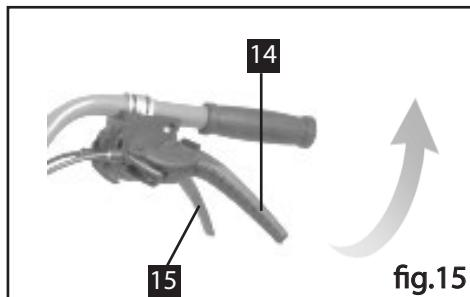

fig.15
- 2) Take the clutch control rod to the middle position. (Figure 15)